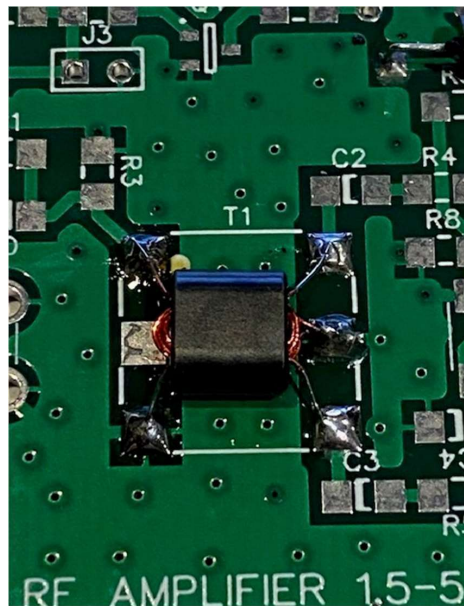

Figure 12. T1 In Place On The PCB.
- x. Solder the transformer into place paying attention to the center tap on the SECONDARY side of the transformer (see figure 12).